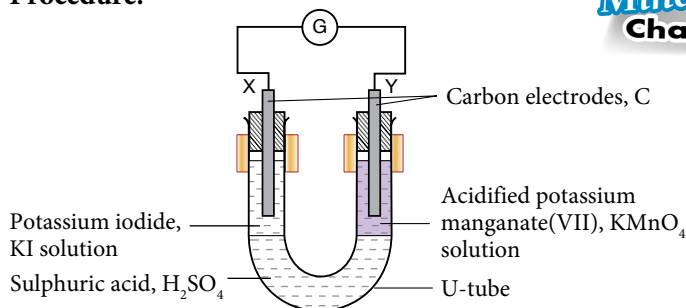

Figure 1.2
- Dip one of the carbon electrodes into the potassium iodide, KI solution while the other carbon electrode into the acidified potassium manganate(VII), KMnO_4 solution to complete the circuit as shown in Figure 1.2.